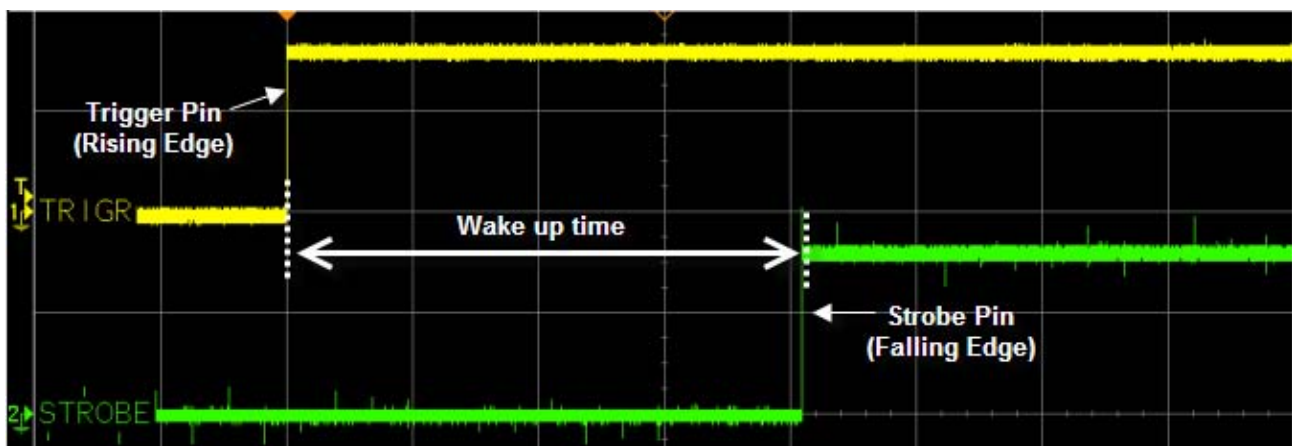

Fig 19. Low power mode self-wakeup demo
9. As shown in Fig 19, the wakeup time is the difference between the rising edge of the trigger pin and the first falling edge of the Strobe pin.